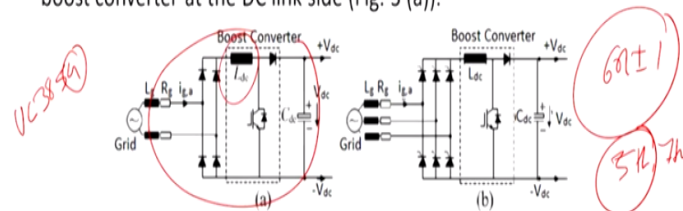

Fig.3: Different AC-DC topologies: (a) single-phase PFC, (b) three-phase
- The most common one is a single phase system, based on a diode rectifier with a boost converter at the DC link side (Fig. 3 (a)).
- The main advantages of Fig.3 (a) topology are the improved line current quality and power factor of the system based on the active circuit in the DC link system.
- Similar concept has been utilized in a three-phase diode or controlled rectifier as shown in Fig.3 (b).
- A main advantage of the converter topology in Fig.3 (b) is the ability to control the DC link current and voltage under different load profiles.
The main advantage of the figure 3 a topology are the improved line current quality and power factor of the system based on the active circuit in the DC link system. Similar concept has been utilized in the three phase diode or the control rectifier as shown in the failure. The main advantage of the converter topology 3 b is the ability to control the DC link current and voltage under different load profile.